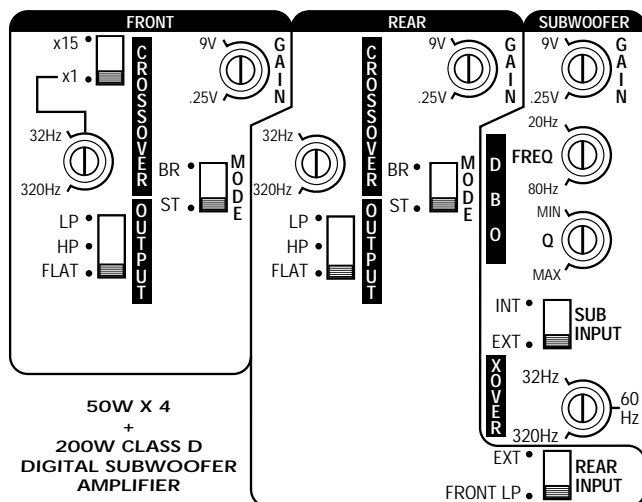

Figure 7. Kappa 255a controls for crossover, input, output, and DBO (Dynamic Bass Optimizer).
- Connect RCA cables from a source unit to the L/R, FRONT/REAR INPUT jacks. If the source unit has subwoofer outputs, also connect a pair of RCA cables from those jacks to the SUB INPUT jacks and set the SUB INPUT switch to EXT (see Figure 7).
- To use the Kappa 255a in a front/rear system, set the CROSSOVER controls to frequencies recommended by the speaker manufacturer (see Figure 7). If the value is unknown, set the control midway.
Initially, turn the front and rear input sensitivity GAIN controls to their minimum (counter-clockwise) positions (refer to Figure 7).